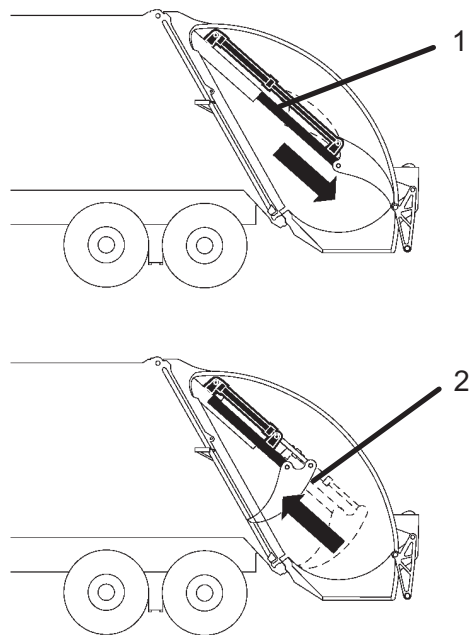

Figure 17
1. PUSH the slide lever to LOWER the panel down (Figure 17, Item 1). The function stops automatically when it hits the fully lowered position, and the control lever returns to its centered position.
2. PULL the slide lever to RAISE the slide panel up and complete the packing cycle. This cycles the sweep and slide panels up together (Figure 17, Item 2). The function